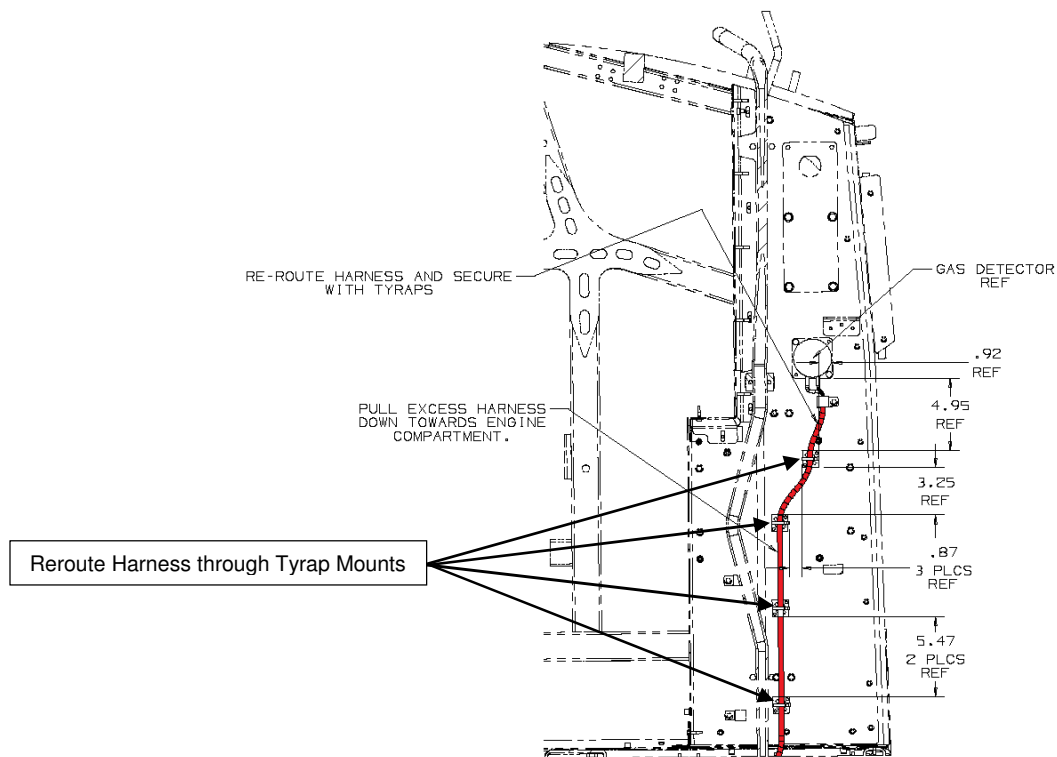

Figure 2: Tyrap Mounting Locations.
3. Install four tyrap mounting bases NF P/N 277973 at the locations shown in Figure 2 using Plexus PC120 primer NF P/N 067196 and Plexus adhesive NF P/N 526515 utilizing the following bonding procedure: